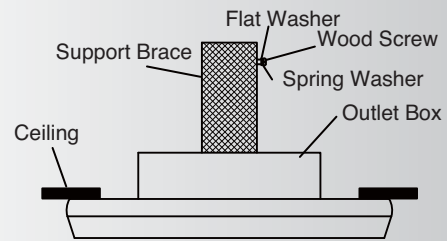

Fig. 12-1
Step 1. Attach the provided wood screw and washers to the ceiling joist next to the mounting bracket but do not tighten. (Fig. 12-1)